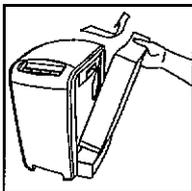

Fig. 41
- Remove the tank from the air washer (Fig. 41).